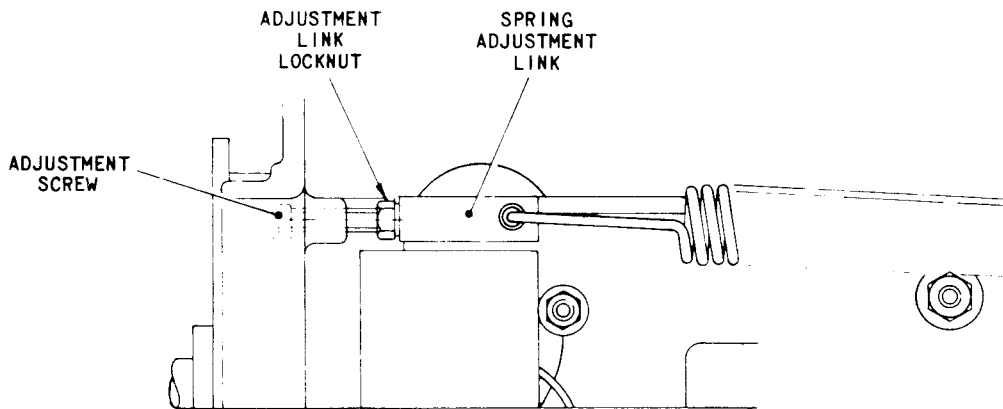

FIG.L.4 PRINT SPRING MECHANISM
- 2.2 To adjust, slacken the locknut of the spring adjustment link, Fig. L.4, and turn the adjustment screw until the correct tension is present. Tighten the locknut.